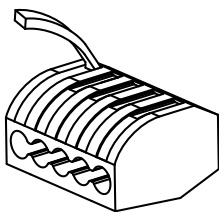
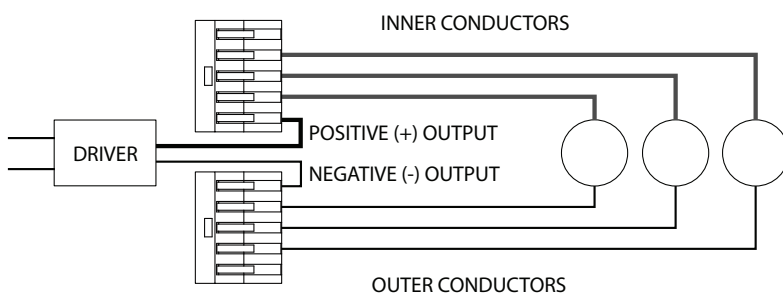

Fig. 3
Fig. 2
- Shut off power to the outlet box (A).
- Feed the cords through the bushings (H). Determine height at which the pendant is to be hung. Use the screwdriver to loosen the slotted set screws (B). Adjust height of cords and tighten set screws. Reserve extra cord in the canopy (C). If shortening the cords is necessary, see Appendix A.
- Attach the mounting plate (D) to the outlet box (A), secure with outlet box screws (E).
- Connect the LED driver's (F) live wire (black) to the live outlet box wire.
- Connect the LED driver's (F) neutral wire (white) to the neutral outlet box wire.
- Connect the canopy's ground wire (green or uncoated) to the ground outlet box wire. If no ground is present in outlet box, connect canopy's ground wire to the mounting plate (D) using the green screw (included).
- Connect fixture cords to driver output wires using lever nuts, as seen in Fig. 2 by pulling up on the lever for an empty slot (Fig. 3), inserting the wire, and pushing the lever back down to lock. The inner stranded conductor and the outer braided conductor on each cord must be connected to separate lever nuts, as shown in Fig. 2. Carefully place connections in canopy.
- Attach canopy (C) to the mounting plate (D), secure with canopy screws (G).